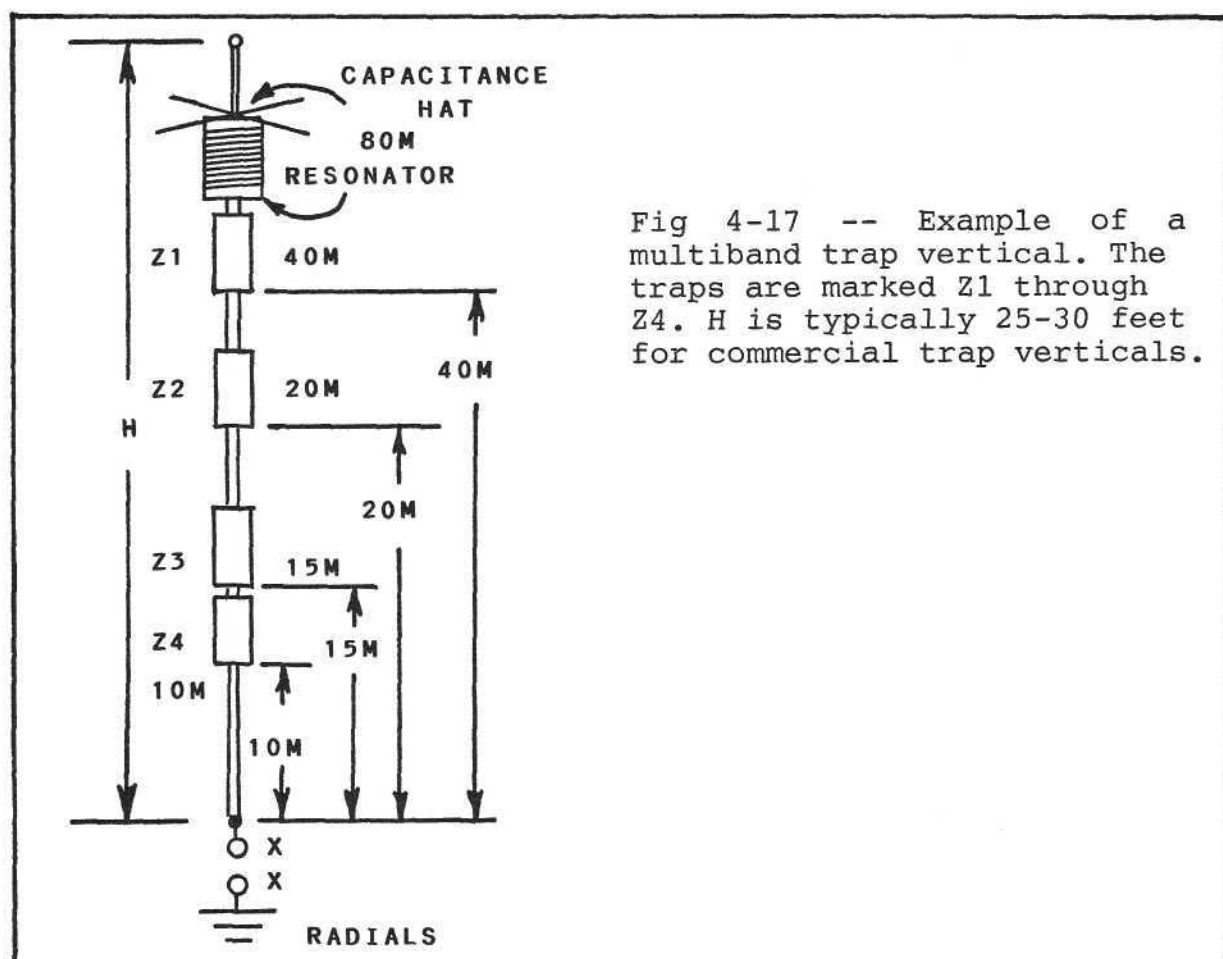

Fig 4-17 -- Example of a multiband trap vertical. The traps are marked Z1 through Z4. H is typically 25-30 feet for commercial trap verticals.
Fig 4-17 shows how a trap vertical is structured. The coil and capacitance hat atop the vertical is usually referred to as a resonator. For example, a 40-through-10 meter trap vertical may be used on 80 meters by adding the top resonator. The overall system then becomes a top-loaded 80-meter vertical, with the various traps in the system acting also as loading coils for 80 meters. This arrangement provides very narrow bandwidth on 80 meters (on the order of 25 kHz). It is a compromise antenna at best. Most multiband trap verticals are only 25-30 feet high, and this degrades the antenna performance also -- especially at 40 and 80 meters.
The working portions of the antenna in Fig 4-17 are specified in meters (M) to show that the high-band sections are toward the bottom of the antenna, as discussed earlier. This style of antenna is fed with 50-ohm coaxial cable. The traps are enclosed in aluminum tubes and rely on an inner aluminum tubing section to provide capacitance to the coil and outer tubing for ensuring trap resonance. In other words, there is no conventional fixed-value capacitor in parallel with the trap coil, as would be the case with a homemade coil-capacitor trap.